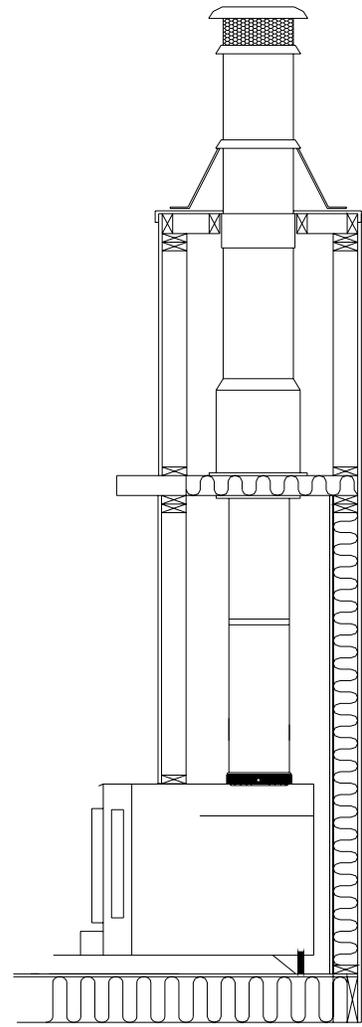

FIGURE 17: PREFABRICATED CHIMNEY
- b) Factory Built, as shown in FIGURE 17, page 38.